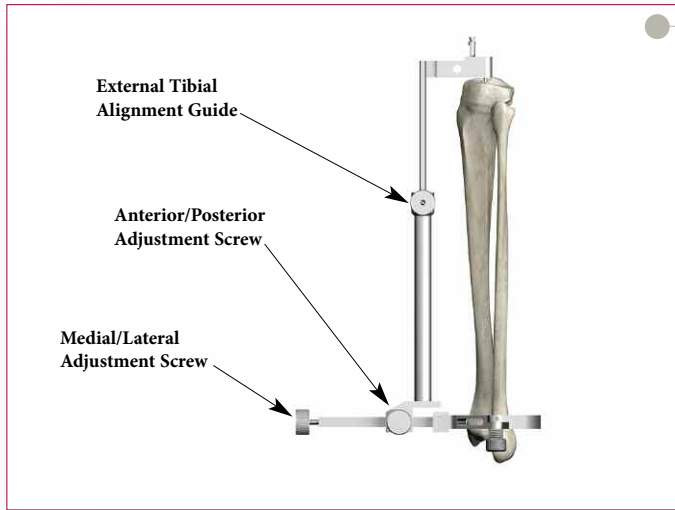

Figure 45
- Axial alignment is achieved when the vertical shaft of the instrument parallels the long axis of the tibia in both the anterior/posterior and medial/lateral adjustment thumbscrews to facilitate alignment (**Figures 45 and 46**).